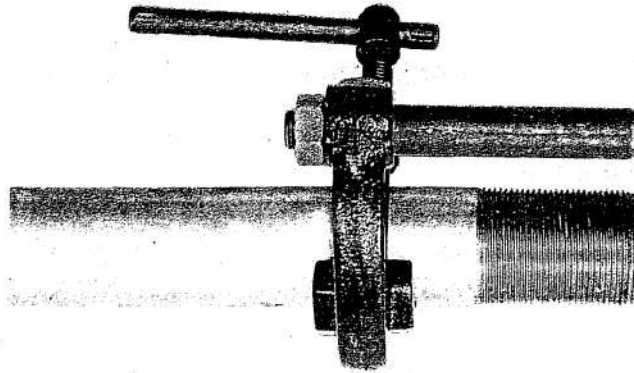

Figure 3
3. Attach support arm tightly to the pipe to ensure that the top of torque scissors parallels the top of the pipe (Fig.3)